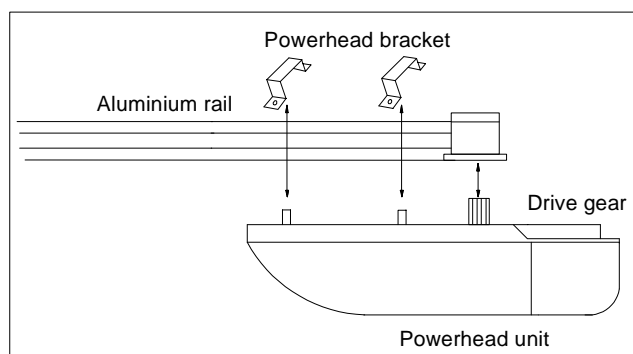
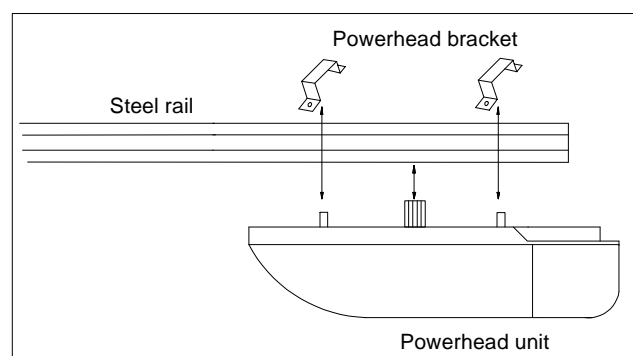

Fig.6 Aluminium rail
Fig.7 Steel rail
- Place the powerhead on the floor, add cardboard packing to protect the powerhead from scratching by the floor. Attach the powerhead unit to the rail, make sure the spindle is inserted into the chain drive, then fix the two brackets (see Fig.6 and Fig.7).